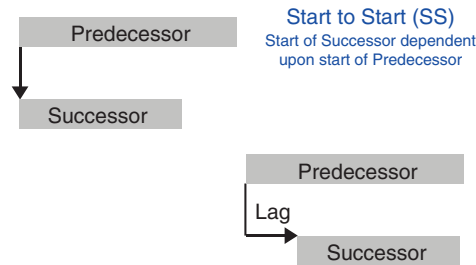

Figure 5.2 Start to Start relationship.
Figure 5.2 shows the Start to Start (SS) relationship, where the Successor task cannot start until the Predecessor activity